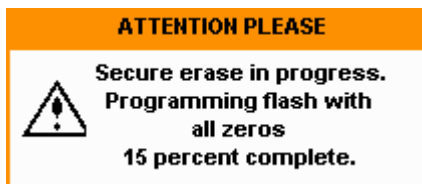

Figure 9-4 Secure erase status pop-up
6. A pop-up appears, as shown in Figure 9-4 informing you of the status of the procedure.